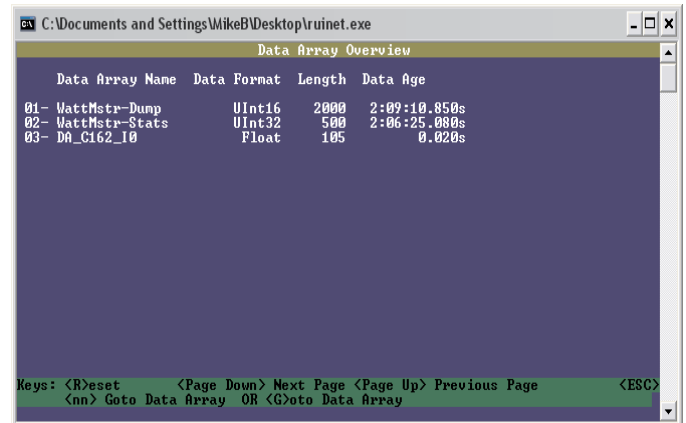

Figure 21: Data Array Overview Screen
17.) From the *RUINET Main Menu*, *type* **<A>** for the Data Array Overview. The *Data Array Overview Screen* will display (**Figure 21**).
18.) This screen (**Figure 21**) will verify communication to the HVAC units. Lines 1 & 2 should always be present. After a start-up period of approximately 4 minutes, you will see 1 additional line for each HVAC unit. This screen represents the PT Link II communicating with 1 HVAC unit.